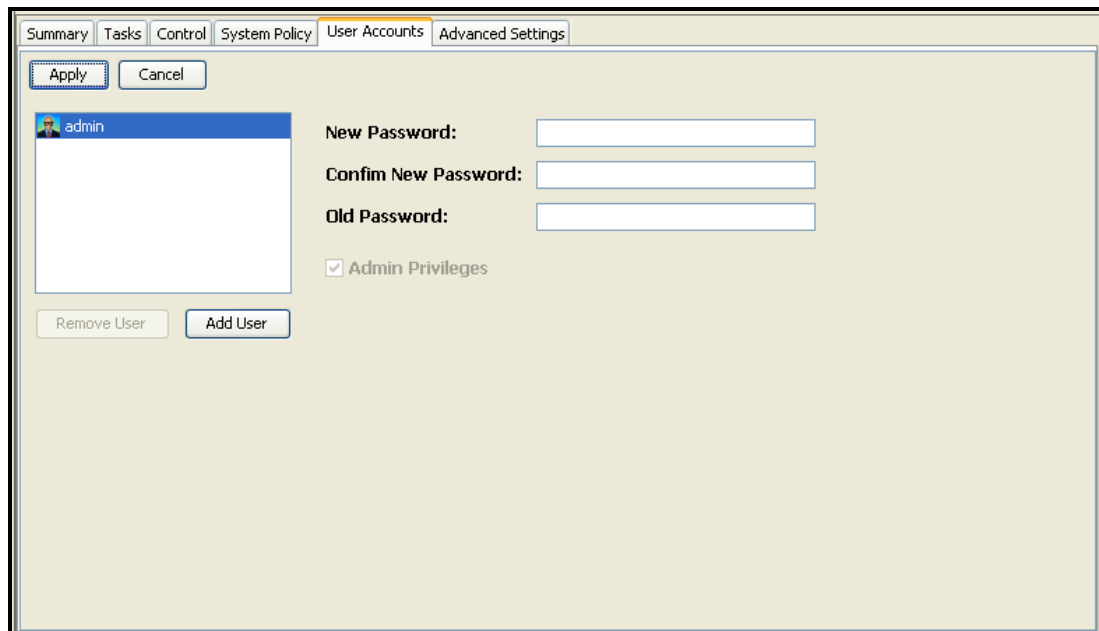

Figure 3-13. User Accounts Tab
*The **User Accounts** tab appears in the **Detail Tabs** area (see Figure 3-13).*
*The **User Accounts** tab displays your user account settings (an example is shown in Figure 3-13).*
The User Accounts tab displays your user account settings (an example is shown in Figure 3-13).